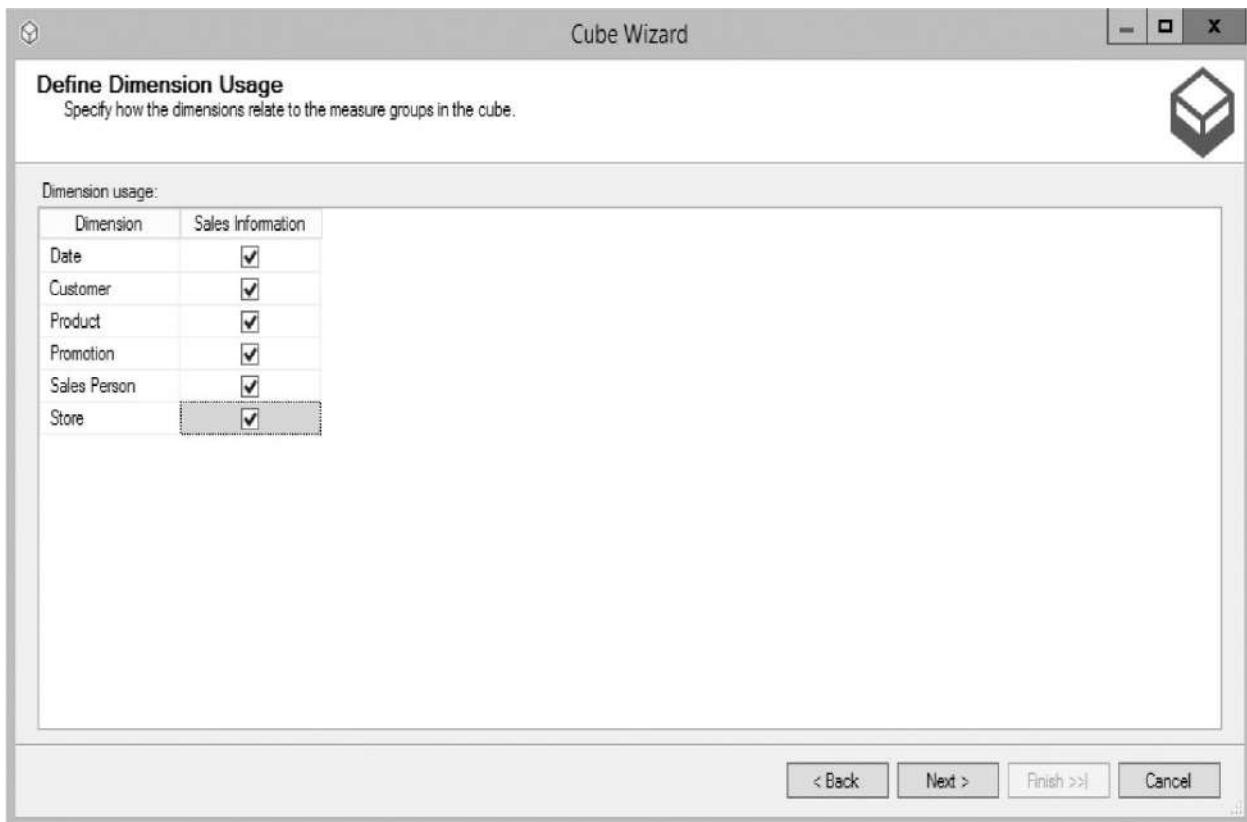

Figure 6-30 Setting the dimension usage in the Cube Wizard
39. The Define Dimension Usage page enables us to specify which dimensions are related to each group of measures. The Max Min Sales data mart is only using one group of measures, called Sales Information, so we want all the dimensions to apply to this group. Check the box in the Sales Information column for all of the dimensions, as shown in Figure 6-30. Click Next.